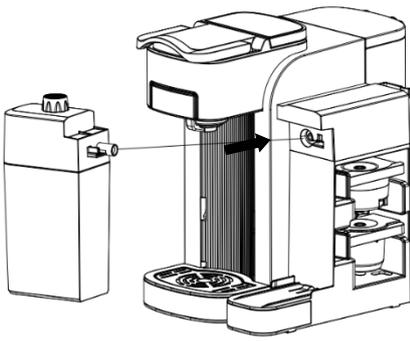

Figure 6
2. Align the steam connector on the milk tank with the steam outlet on the bracket, then push the milk tank to dock. Once connected, the Latte, Cappuccino, and Hot Milk options on the machine's display screen will light up and become operable. If the milk tank is not properly attached, Latte, Cappuccino, and Hot Milk are half-lit and cannot be operated (see Figures 6 and 7).